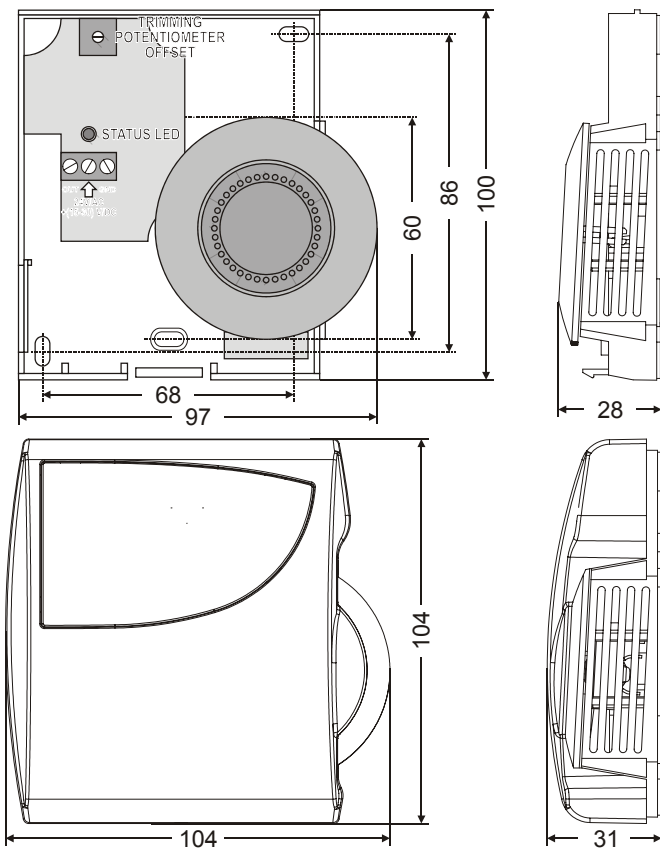

Fig. 3. Dimensions, mounting holes (mm)
Weight /Dimensions	approx. 125 g / see Fig. 3
2. Mount the sensor onto the wall outlet box or bore wall holes as specified in Fig. 3 and mount the wall module with appropriate screws.
- b) Insert wire in required terminal location (see Fig. 3) and tighten the screw to complete the termination.